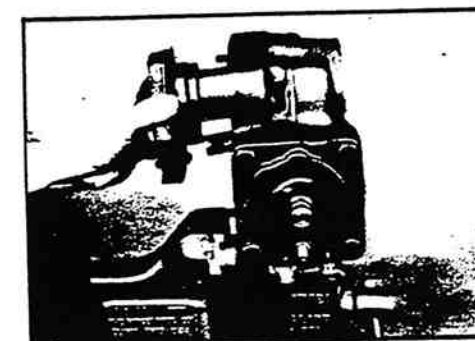

Figure 11-13. Sector Shaft Partial Removal.
11. Begin to remove the side cover (42) and sector shaft (39) assembly (figure 11-13) and stop when the bearing rollers are half exposed. A soft hammer may be needed to start the removal of the side cover sector shaft assembly.